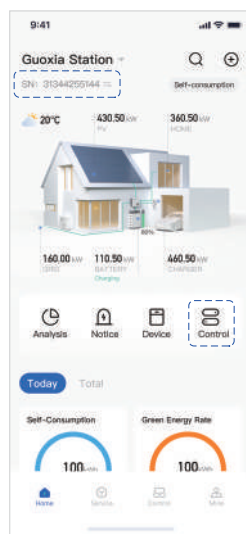

Fig. 11
- If you want to set up the inverter remotely, enter the "Home" page, select the device you want to control, and click "Control" to operate the device remotely. As the following fig. 11